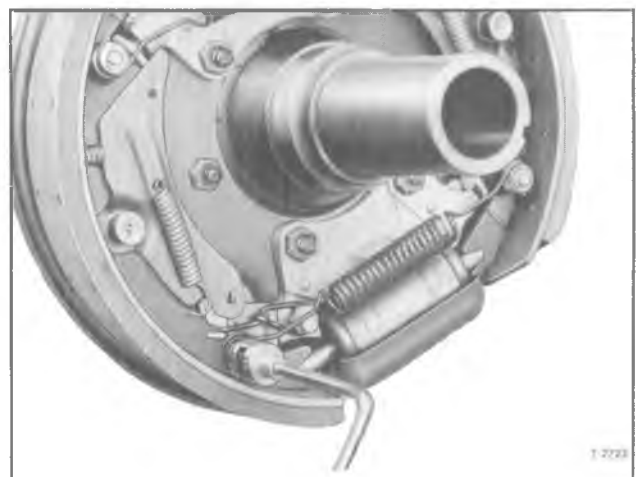

Figure 37—Removing Pull Back Springs
3. Using Tool (J-22348), remove the brake shoe pull-back springs (fig. 37).